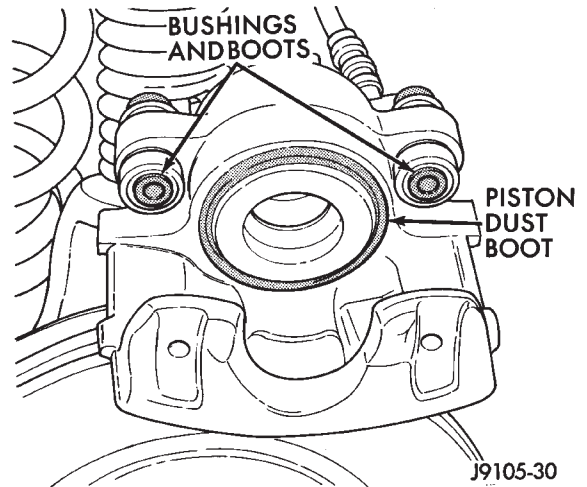
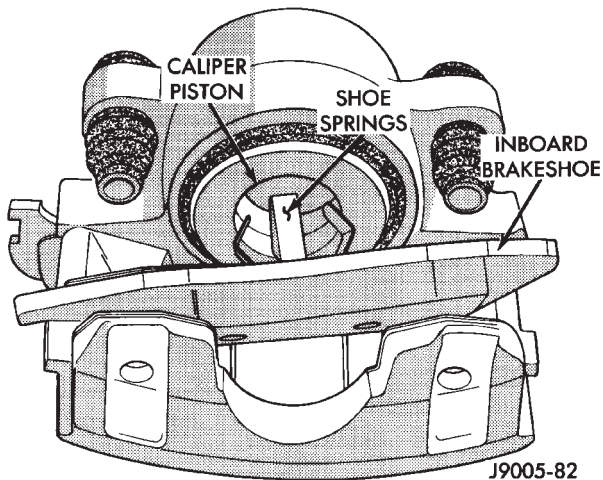

Fig. 7 Caliper Dust Boot And Bushing Locations
Fig. 6 Removing Inboard Brakeshoe
- (9) Remove inboard shoe. Grasp ends of shoe and tilt shoe outward to release springs from caliper piston (Fig. 6). Then remove shoe from caliper.
(10) Support caliper on box, mechanics stool, or similar device. **Do not allow brake hose to support caliper weight.**
(11) Wipe caliper off with shop rags or towels. **Do not use compressed air. Compressed air can unseat dust boot and force dirt into piston bore.**
(12) Inspect condition of caliper piston dust boot (Fig. 7). Overhaul caliper if there is evidence of leakage past piston and dust boot. Then inspect caliper bushings and boots (Fig. 7). Replace boots if torn or cut. If bushings or boots are damaged, replace them.
(1) Lubricate caliper mounting bolts and bushings (Fig. 7) with GE 661 or Dow 111 silicone grease.